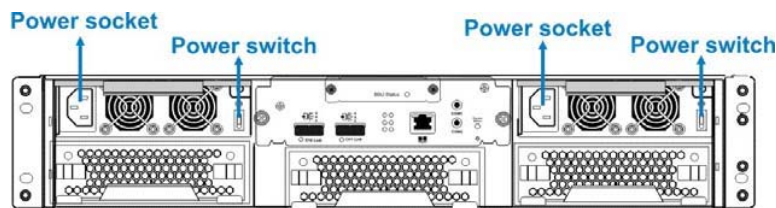

Figure 4-1: Power Sockets and Power Switches
- ③ Using the included power cords, connect both power sockets on the subsystem's power supplies to the main power source.
- ③ Power on the subsystem by the two (2) power switches on power supplies. (See **Figure 4-1**) Each switch controls a single PSU; therefore make sure both switches are turned on.